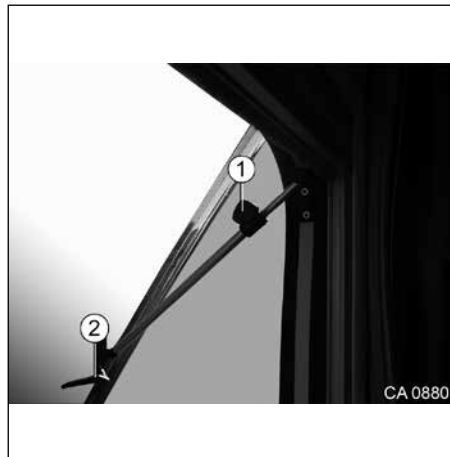
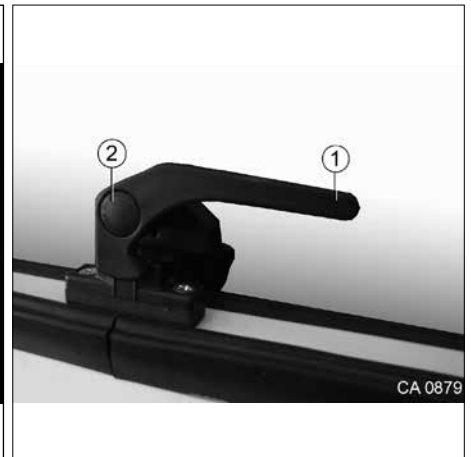

Fig. 9 Hinged window
Fig. 10 Hinged window lock lever
- During each operation, press the lock lever of the locking knob (see Fig. 10, Pos. 2).
1. Press the locking knob (Fig. 9 and Fig. 10, Pos. 2) and keep it pressed.
2. Move the lock handle (Fig. 10, Pos. 1) to the upright position.
3. Open the knurled screw on the telescopic catch (Fig. 9, Pos. 1).
4. Close the knurled screw on the telescopic catch (Fig. 9, Pos. 1).
4. Press the locking knob (Fig. 9 and Fig. 10, Pos. 2) and keep it pressed.
5. Move the lock handle (Fig. 10, Pos. 1) to the horizontal position.